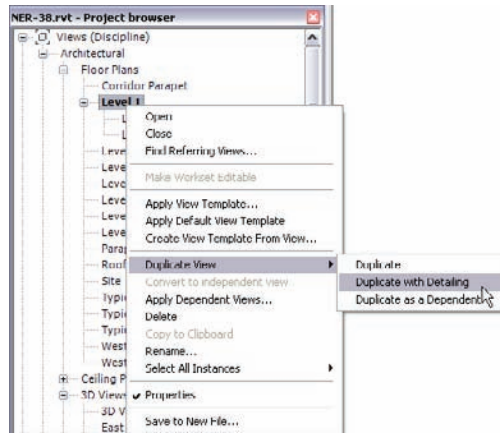

FIGURE 20.20 Duplicating the view
2. Right-click the Level 1 view in the Project Browser, and click Duplicate View > Duplicate With Detailing, as shown in Figure 20.20.